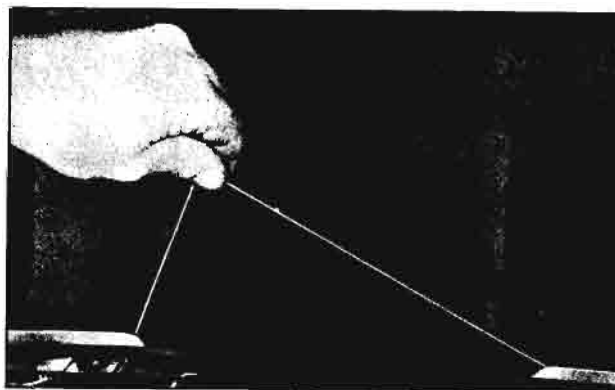

Fig. 10-22a—Installing Lip of Rubber
- 7. Press firmly on the outside surface of the glass and have the helper inside of the body, slowly pull the cord outward from the lower center toward each lower corner to seat the lip of the rubber channel over the flange (see Fig. 10-22a).